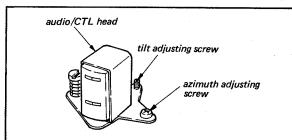

Fig. 8-1. Azimuth and tilt adjusting screws
3. Adjust the Azimuth and Tilt Adjusting Screws shown in Fig. 8-1 for maximum output.